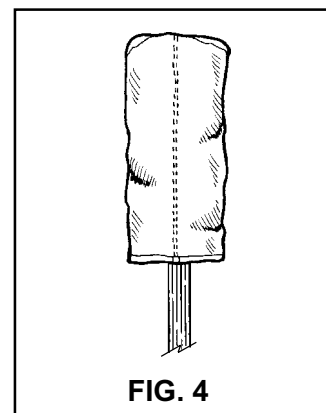

FIG. 4
5. At this point, refer to the directions by the canopy manufacturer for flaking and folding the canopy. After flaking and folding it should resemble (FIG. 4).